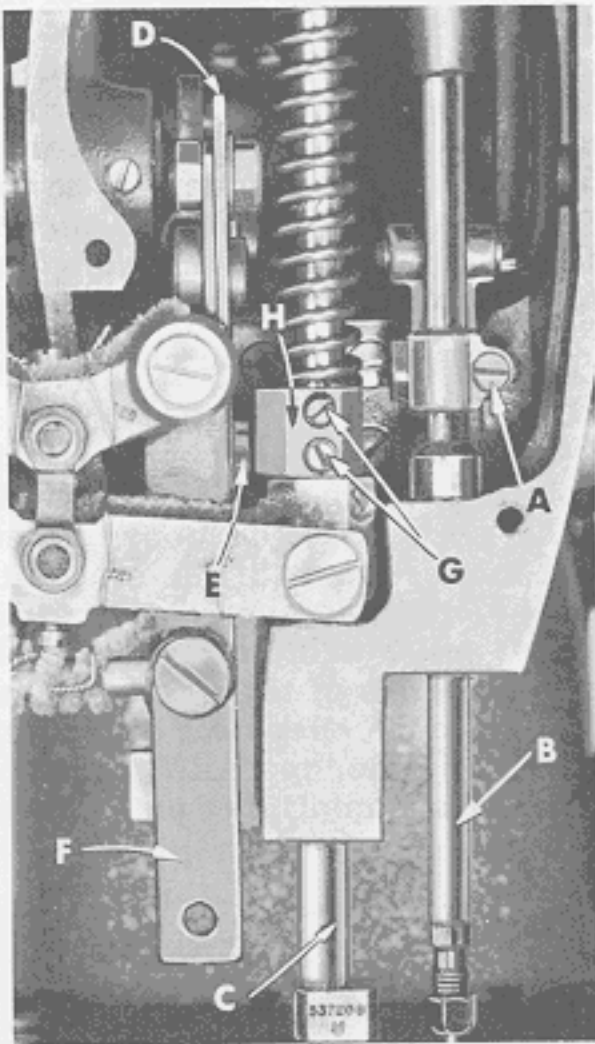
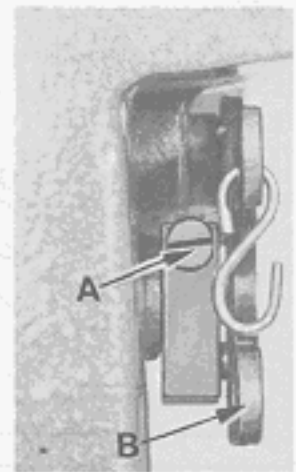

Fig. 3
Fig. 12
The height of the needle is correct when the top of its eye is $1/64$ inch below the underside of the looper, when the looper point is flush with the left side of the needle. If adjustment is necessary, loosen screw (A, Fig. 3) and move needle bar (B) up or down as required and retighten screw (A).
If adjustment is needed, loosen tension release lever screw (A, Fig. 12), located at the back of the machine and move tension disc separator as required. Retighten screw. After adjustment there should be no binding at any point.
The height of the presser bar (C, Fig. 3) is set correctly if it is possible to remove the presser foot when the foot lifter lever (B, Fig. 12) is fully depressed. Also, there should be approximately 1/16 inch clearance between the bottom end of the slot of the lifter link (D, Fig. 3) and the stud (E) located in the upper feed bar (F) when the foot lifter lever is released and the presser foot resting on the throat plate, with the feed dog down below the throat plate.
If adjustment is necessary, turn handwheel in operating direction until the needle bar is in the low position. Loosen screws (G, Fig. 3), then, while holding presser foot down on the throat plate surface, pry up presser bar connection and guide (H) with a screwdriver to obtain the 1/16 inch setting and retighten screws.